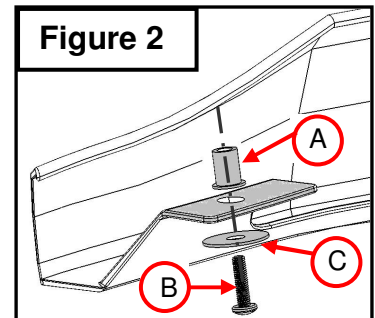

Figure 2
3. Attach supplied hardware to hood shield. **(Figure 2)**